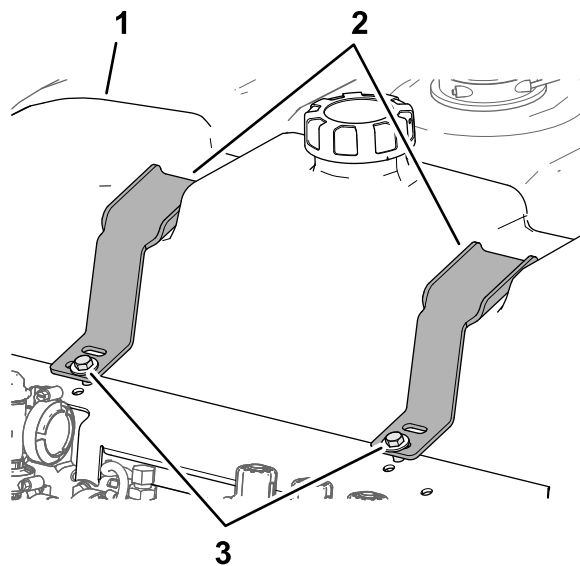

Figure 42
1. Fill the rinse tank with clean water (Figure 42).
2. Check for play between the hold downs and the rinse tank (Figure 42).
3. If you find play between the hold downs and the rinse tank, tighten bolt(s) and flange locknut(s) until the hold downs are snug against the rinse tank (Figure 42).